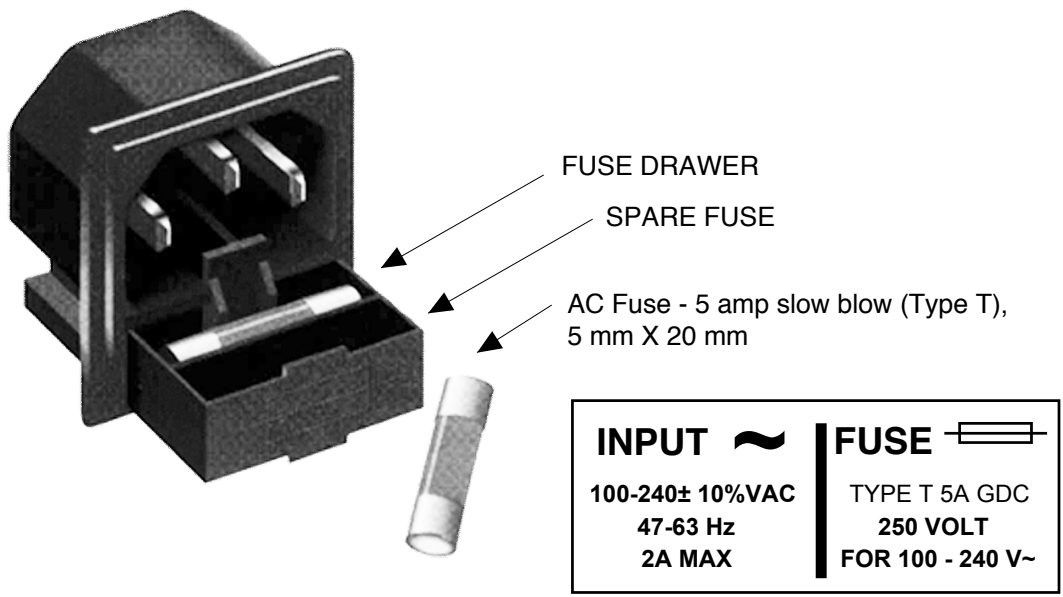

FIGURE 2.4 Fuse Location and Spare Fuse
8. **AC Fuse** - The fuse is a 5 mm X 20 mm, 2 amp slow blow (Type T) and is inserted in the far slot in the drawer below the AC input as shown in Figure 2.4. There is a spare fuse in the near slot. If a fuse continues to open, the power supply is most likely defective.